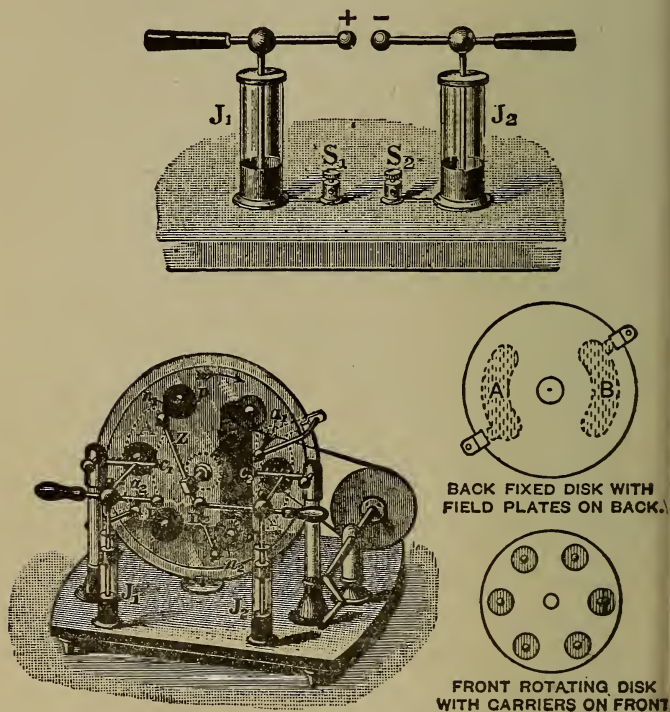

Fig. 22. A Toepler Electrical Machine.
**Toepler's Influence Machine.**—In this machine, as constructed by Voss, are embodied various points due to Holtz and others. Its construction follows almost literally the diagram already explained, but instead of having two cylinders, one inside the other, it has two flat disks of varnished glass, one fixed, the other slightly smaller rotating in front of it (Fig. 22). The field-plates A and B consist of pieces of tinfoil, cemented on the back of the back disk, each protected by a coating of varnished paper. The carriers are small disks or sectors of tinfoil, to the number of six or eight, cemented to the front of the front disk. To prevent them from being worn away by rubbing against the brushes a small metallic button is attached to the middle of each. The neutralizing brushes  $n_1$ ,  $n_2$  are small whisks of fine springy brass wire, and are mounted on the ends of a diagonal conductor Z. The appropriating brushes  $a_1$ ,  $a_2$  are also of thin brass wire, and are fastened to clamps projecting from the edge of the fixed disk, so that they communicate metallically with the two
the two small Leyden jars  $J_1$ ,  $J_2$ , the function of which is to accumulate the charges before any discharge take place. These jars are separately depicted in Fig. 22. Without them, the discharges between the knobs tak
To use the Toepler (Voss) machine first see that all the four brushes are so set as to make good metallic contact with the carriers as they move past, and that the neutralizing brushes are set so as to touch the carriers while under influence. Then see that the discharging knobs are drawn widely apart. If it is clean it should excite itself after a couple of turns, and will emit a gentle hissing sound, due to internal discharges (visible as blue glimmers in the dark), and will offer more resistance to turning. If then the knobs are pushed nearer together sparks will pass across between them. The jars (the addition of which we owe to Holtz) should be kept free from dust. Sometimes a pair of terminal screws are added at  $S_1$ ,  $S_2$  (Fig. 22) connected respectively with the outer coatings of the jars. These are convenient for attaching wires to lead away discharges for experiments at a distance. If not so used they should be joined together by a short wire, as the two jars will not work properly unless their outer coatings are connected.